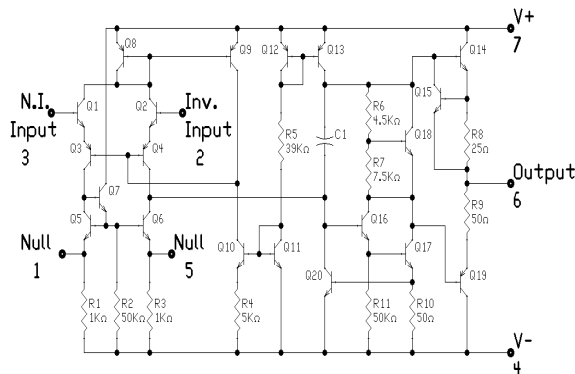
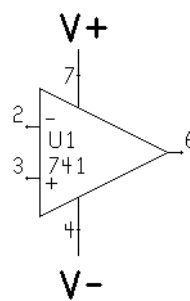

Fig. 19-1. Schematic diagram of the 741 op-amp
Fig. 19-2. 741 op-amp block
The 741 circuit in Fig. 19-1 consists of some 20 transistors, eleven resistors, and one capacitor, all combined together into one tiny integrated circuit that costs just a few pennies. There are a few things worth pointing out about that circuit (and we will do so shortly), but fortunately most of the time we don't need to look at the circuit at all. We usually just think of it as an 8-pin integrated circuit, some of whose pins aren't even always used, and we draw it as a triangular block as shown in Fig. 19-2. The triangle is a generic symbol used to denote an amplifier, and the small numbers (such as 2, 3, and 6) denote the pin numbers for the integrated circuit; these pin numbers also appear in Fig. 19-1. Not all IC op-amps use these same pin numbers, but this is a fairly common pattern.
Notice that Fig. 19-1 shows two pins labelled Null, pins 1 and 5. These are usually called *Null Offset*, but they are seldom used. They don't generally appear in block diagrams such as Fig. 19-2 unless you specifically need to connect to them.
Fig. 19-1 and Fig. 19-2 both show a pair of pins called V+ (pin 7) and V- (pin 4). These power pins are often
In Fig. 19-1, you can see that the $V+$ line is a long line along the top of the diagram, while the $V-$ line is a long line at the bottom. These two lines (and the voltages that go with them) are usually called the *positive rail* and *negative rail*, respectively.
- Pin 2 is called the *Inv.* or *inverting* input in Fig. 19-1, but is labelled with a minus sign in Figs. 19-2 and 19-3. Both of these names are used. What they mean is that any input to this pin will be amplified, but will come out inverted at the output. A positive-going signal at the inverting input will come out negative going at the output, pin 6.
- Pin 3 is called *N.I.* in Fig. 19-1, which stands for *Not Inverted*. It is labelled + in the remaining figures. A signal coming in here is *not* inverted at the output.
The *Null* pins in Fig. 19-1 (they are actually called *null offset*) are also inputs of sorts, but only used for special purposes. We will only briefly mention them below.
Looking back at Fig. 19-1, we see that the circuitry at both inputs is identical. They both go directly into the base
The output from the 741 op-amp is on pin 6. Fig. 19-1 shows that the output comes through a pair of fairly small resistors from two transistors, Q_{14} and Q_{19} .
Looking at Fig. 19-1 again, we see that there are quite a few transistors between the input and the output. Although the gain of a single stage might be fairly small, gains of cascaded stages multiply, so the gain of an op-amp is much higher.